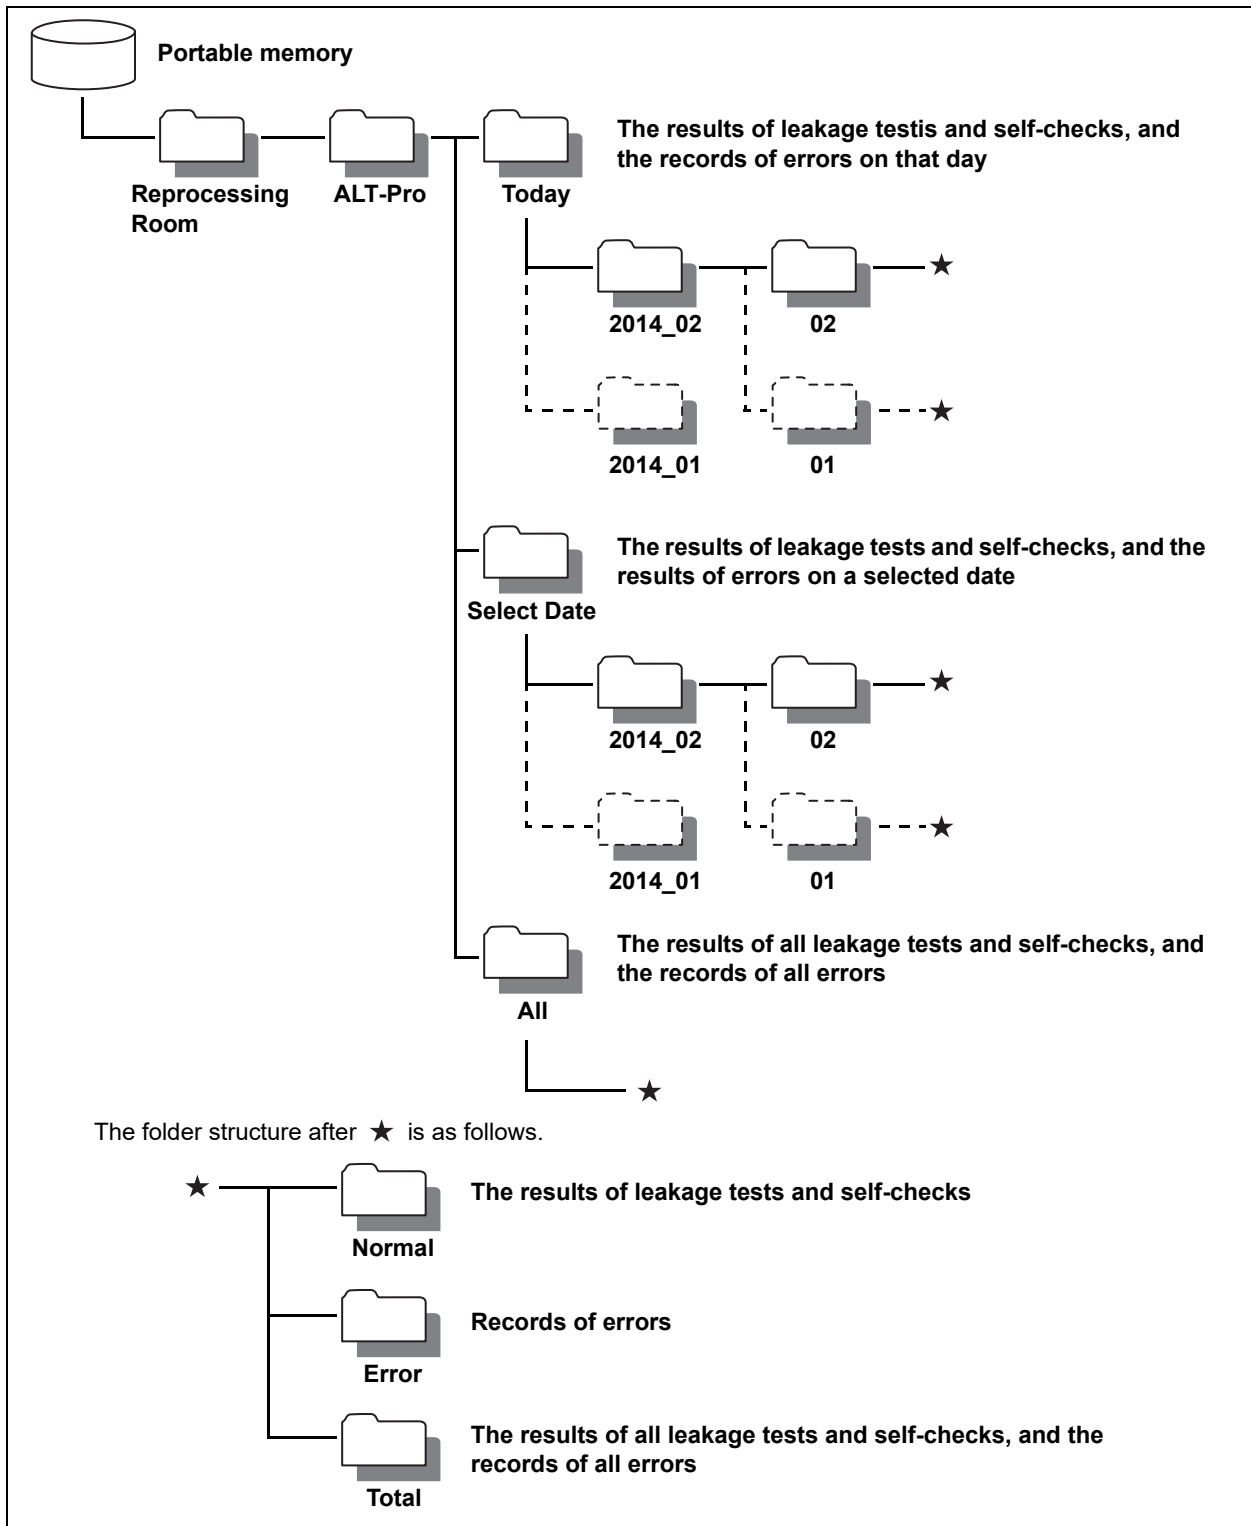

Figure 7.21
- 2** Open the drive where the portable memory is connected. Download the ALT-Pro folder within the portable memory as shown in Figure 7.21 or a CSV file in the folder to a personal computer.